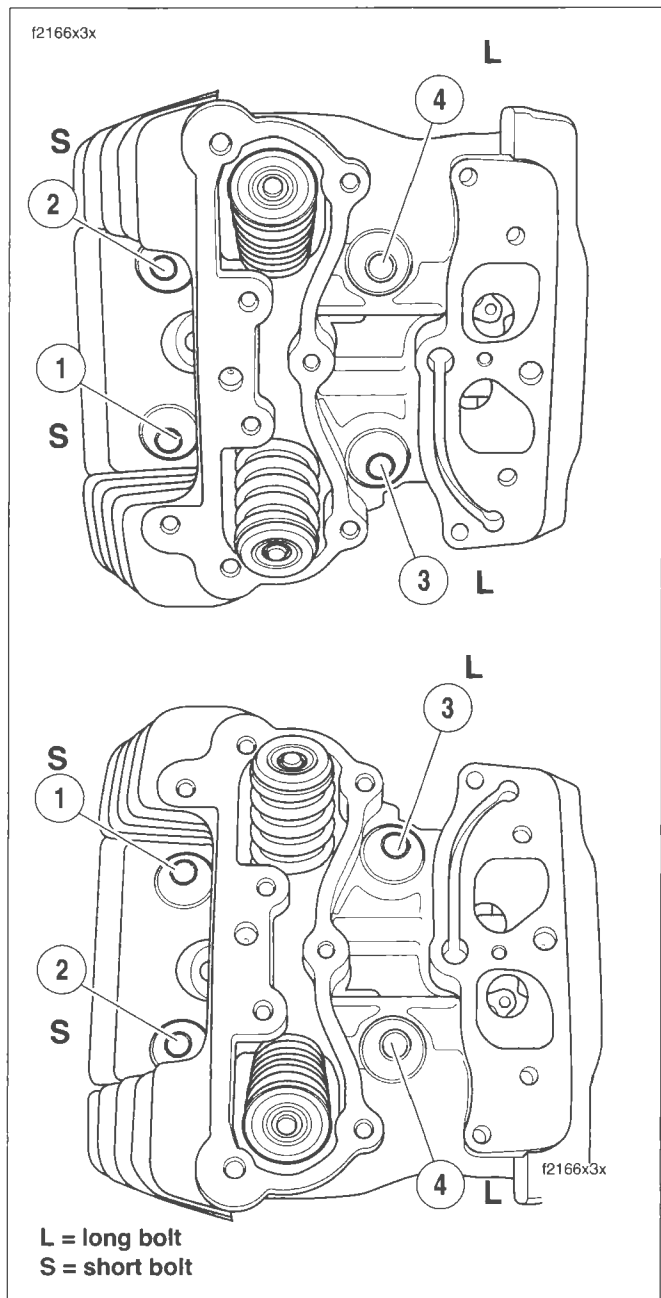

Figure 3-38. Cylinder Head Bolt Torque Sequence
4. See Figure 3-38. Loosely install the cylinder head bolts onto the cylinder studs. Place two short bolts on the left side of the engine and two long bolts on the right.
- e. Using the marks as a guide, turn each bolt 1/4 turn or 90 degrees. Be sure to tighten the cylinder head bolts in the sequence shown in Figure 3-38.